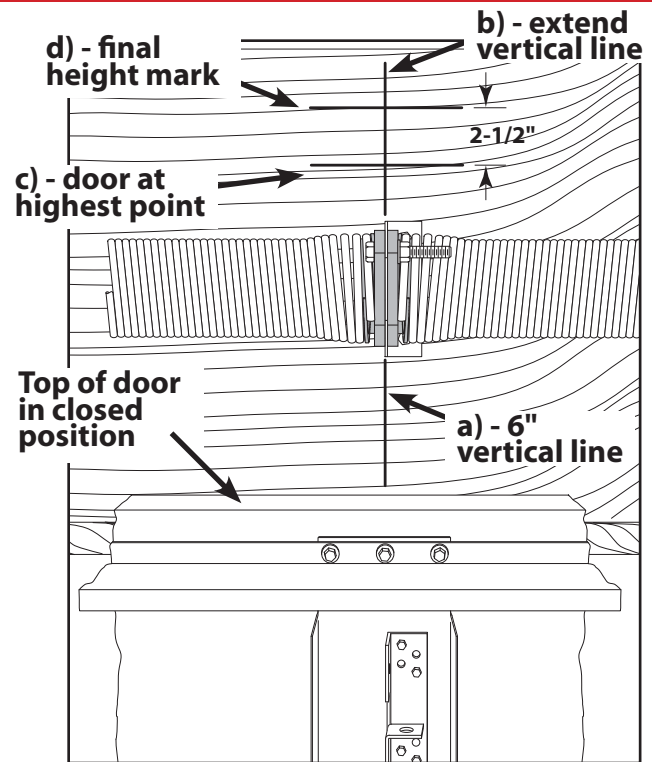

FIG. 2-1 Final height mark
- b) Continue this line on wall above door for about 12" (**Fig. 2-1, a**).
- Mark height measurement on wall above door (**Fig. 2-1, c**).
- Add 2-1/2" to height mark just made on wall. This is location for header bracket (**Fig. 2-1, d**).